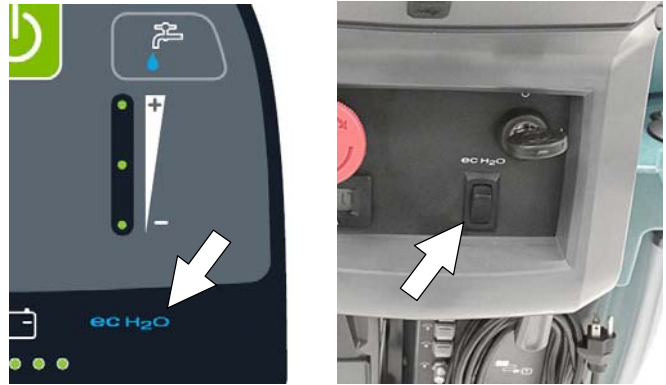

FIG. 35
3. ec-H2O models - The ec-H2O system will automatically turn on at key start up. The ec-H2O indicator will appear on the control panel indicating that the system is activated (Figure 35).
ATTENTION: When conventional scrubbing with cleaning detergents in solution tank, make sure to turn off the ec-H2O system by pressing the ec-H2O switch (Figure 35). If cleaning detergent is accidentally cycled through ec-H2O system, a system fault will occur. To clear fault, drain solution tank, add clear water and operate the ec-H2O system to clear fault. If fault repeats, continue to recycle key until fault clears. See SERVICE INDICATOR CODES for further detail.